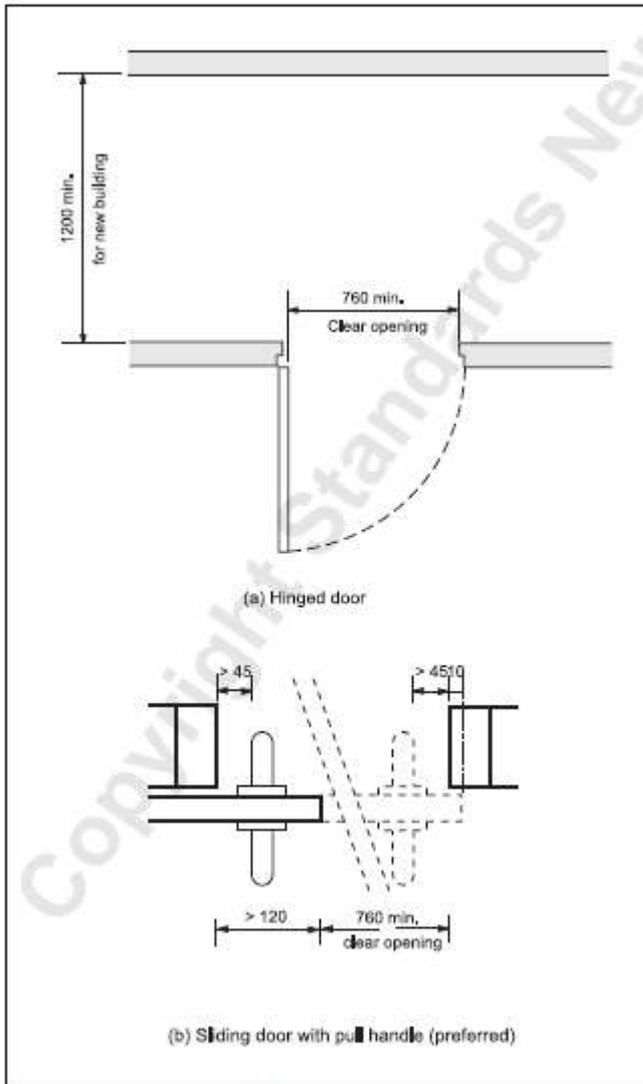

Figure 20 – Clear width of doorway
The locking mechanism of the CL400 ADA Magnetic is operated through an easily graspable handle which is pulled down to lock and up to unlock. The handle will be readily usable for persons with limited hand movement including those with arthritis. **A minimum of 45mm clear space must be provided from the edge of handle to the door jamb to provide for usability by persons with limited hand movement.** (Ref Appendix NZS4121:2001, Figure 20 – Clear width of doorway.)
- When closed the **straight handle option will not provide the required minimum clear space of 45mm between handles and door jamb and cannot achieve compliance in line with NZS4121:2001** (Refer Appendix NZS4121:2001, Figure 20 – Clear width of doorway and photo #1, CL400 ADA Magnetic Straight Handle.)